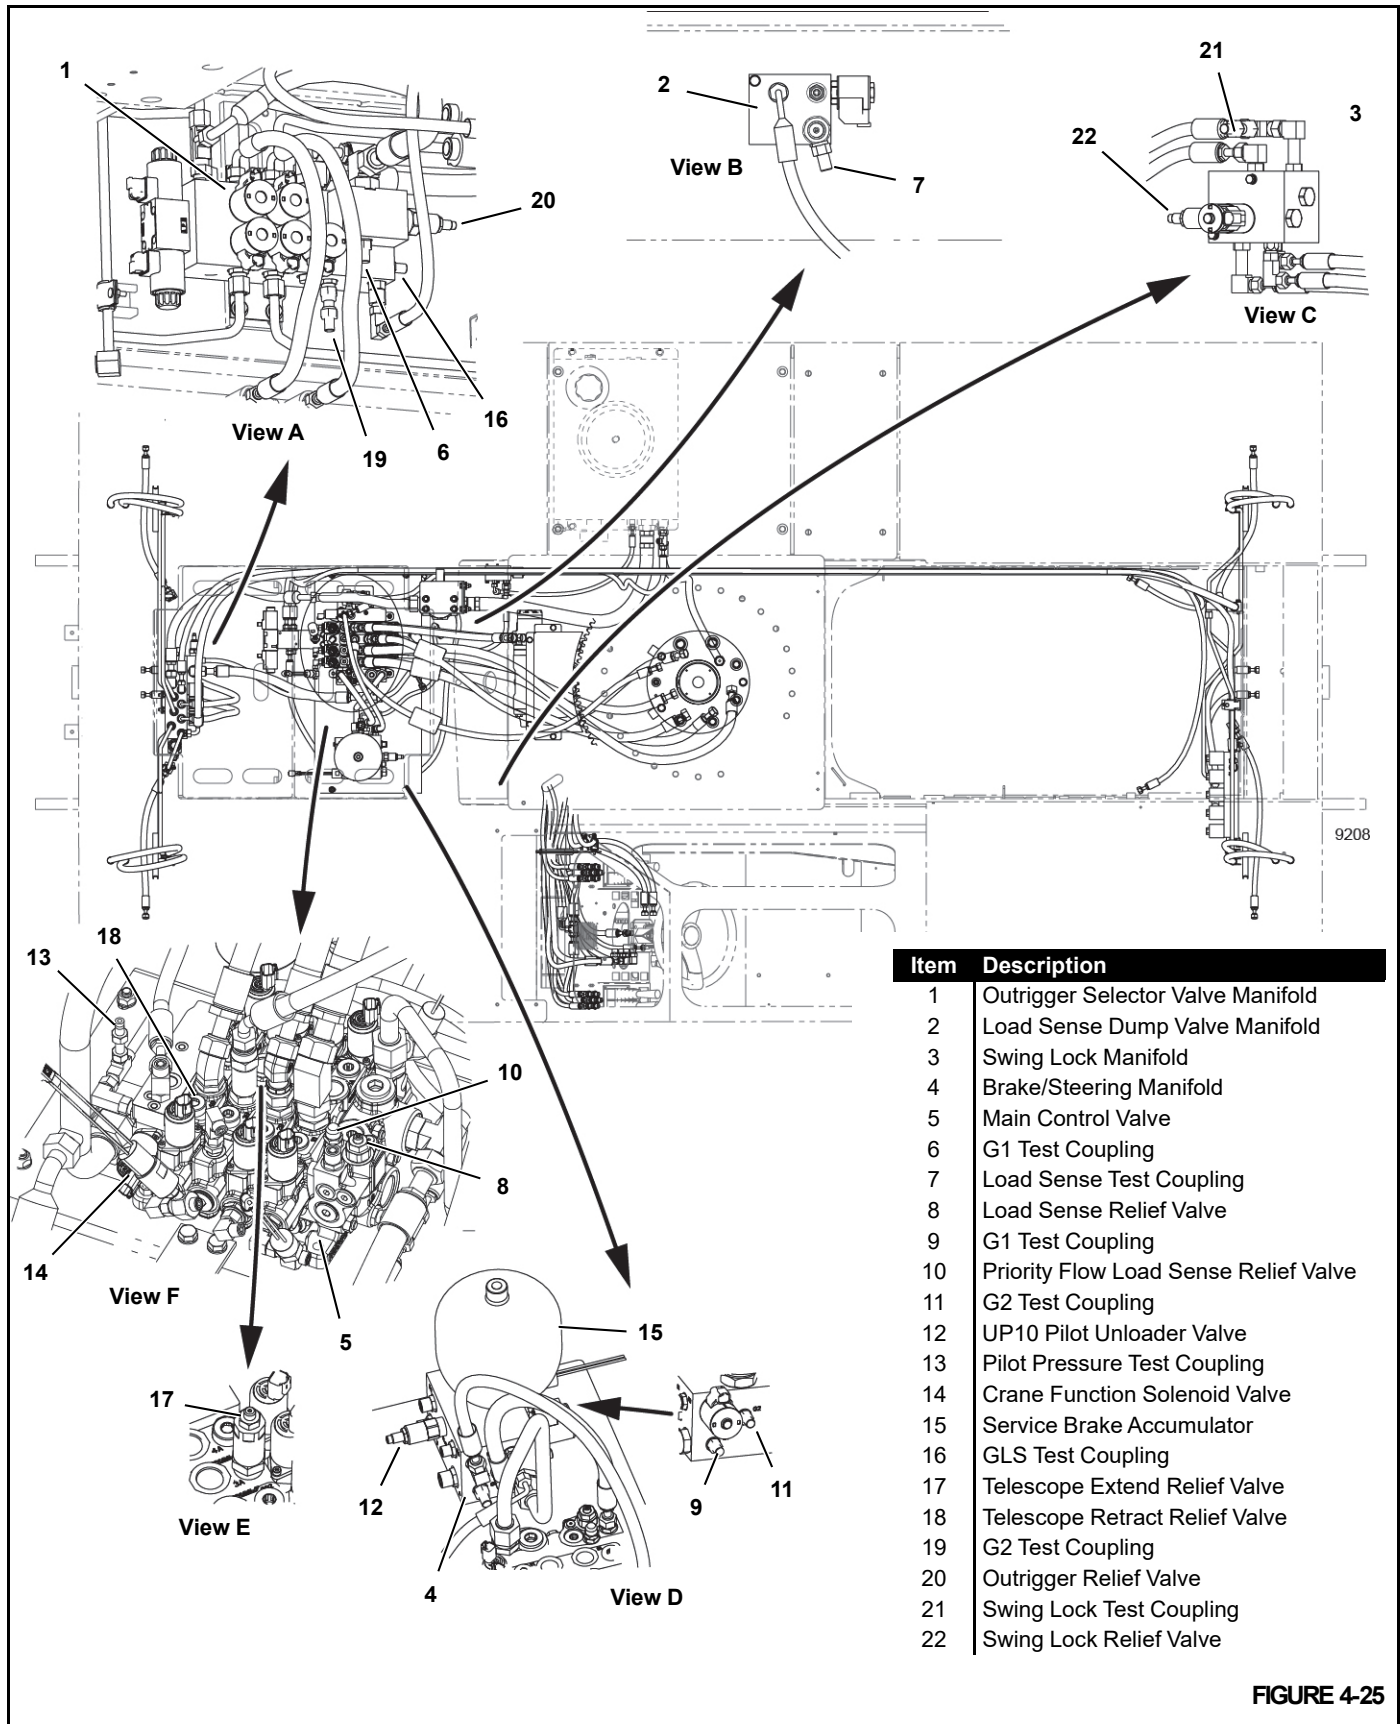

FIGURE 4-25
NOTE: The valves shown in Views A, D, E, and F (Figure 4-25) can be accessed by removing the cover plates from the carrier deck.
2. Attach the pressure gauge to the G1 test coupling (6, View A, Figure 4-25).
2. Attach the pressure gauge to the load sense test coupling (7, View B, Figure 4-25).
- a. Loosen the jam nut on the load sense relief valve (8, View F, Figure 4-25).
2. Attach the pressure gauge to the G1 test coupling (9, View D, Figure 4-25).
4. Remove the cap nut from the priority flow load sense relief valve (10, View F) Figure 4-25).
8. Attach the pressure gauge to the G2 test port (11, View D, Figure 4-25).
9. Loosen the jam nut on the UP10 pilot unloading valve (12, View D, Figure 4-25).
- If the proper pressures are not obtained, adjust the UP10 pilot unloading valve (12). Clockwise rotation increases pressure.
2. Attach the pressure gauge to the pilot pressure test coupling (13, View F, Figure 4-25).
6. If the pressure reading is not correct, verify the current to the crane function power solenoid valve (14, View F, Figure 4-25).
The service brake accumulator (15, View D, Figure 4-25) must be serviced by a qualified technician who is trained and thoroughly familiar with accumulator charging procedures.
2. Attach the pressure gauge to the GLS test coupling (16, View A, Figure 4-25).
- Loosen the jam nut on the telescope extend relief valve (17, View E, Figure 4-25).
- d. If the pressure reading is not correct, take corrective action. the telescope retract relief valve (18, View F, Figure 4-25) is not adjustable.
2. Attach the pressure gauge to the G2 test coupling (19, View A, Figure 4-25).
- a. Loosen the jam nut on the outrigger relief valve (20, View A, Figure 4-25).